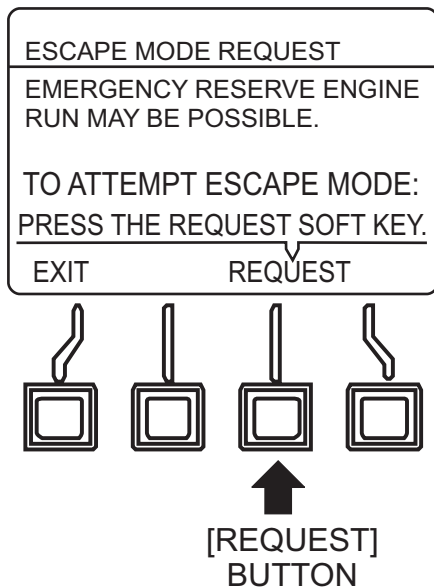

Figure 99. Escape Mode (Request Button)
- Press the **[REQUEST]** button (Figure 99) to send "Escape Mode Request" signal to ECM.